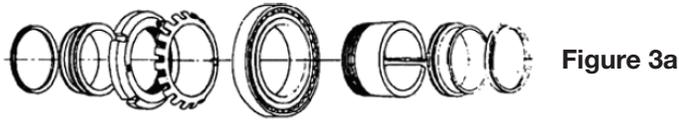

Figure 3a
4. Slide second V-ring seal onto shaft making sure lip is toward the bearing. NOTE: Do not install V-ring seal on seal ring at this time (Figure 3a).